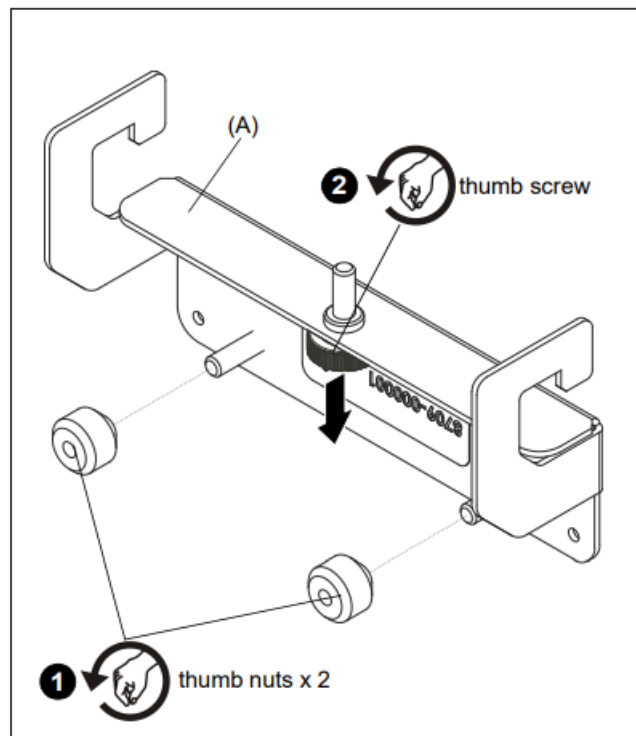

Figure 1
1. Remove two thumb nuts from the flex hook bracket (A). (See Figure 1)